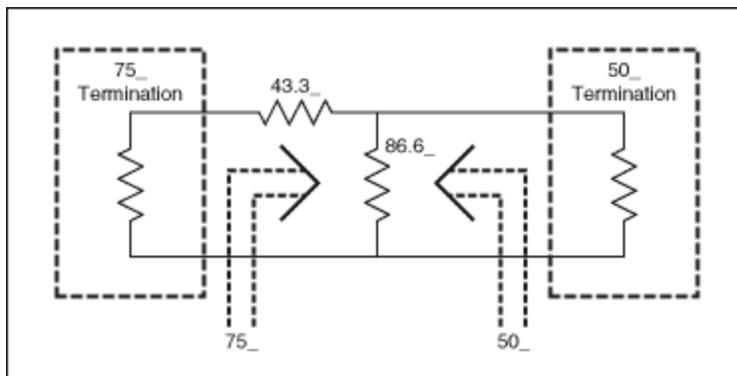

Figure 1. 75Ω to 50Ω minimum loss pad.
**Figure 1** shows a MLP for conversion between 75Ω and 50Ω. The 75Ω termination sees a 75Ω